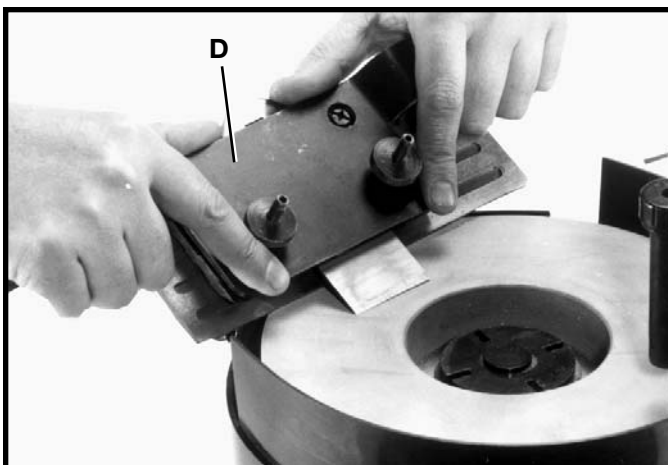

Fig. 29
3. Figure 29, illustrates a plane iron being sharpened using the tool and chisel holder (D) supplied with the machine.